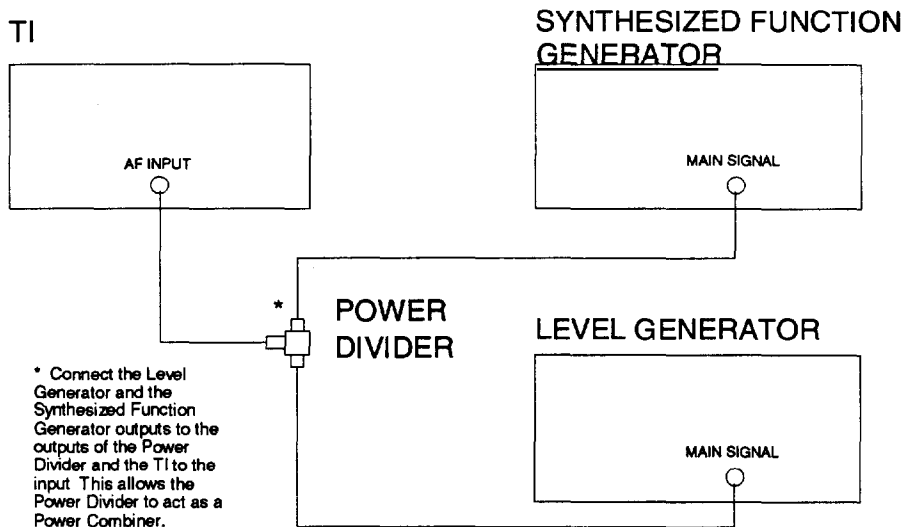

Figure 2.
4.8.1 Connect equipment as shown in Figure 2.